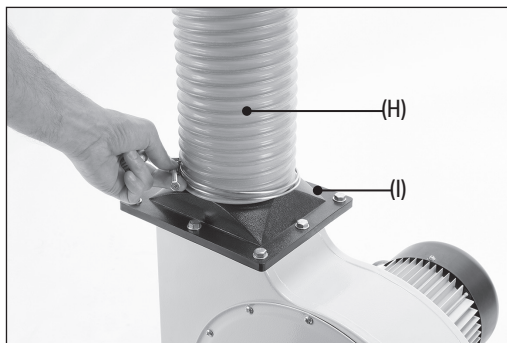
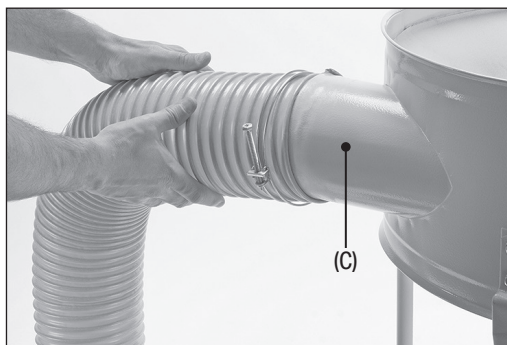

Fig. 9
Fig. 10
- Attach one end of the hose to the hose outlet (Fig. 9) and the other to the collection bag duct (Fig. 10).
- Open the collection bag (D) and slide it up over the lower rim of the collection bag duct (C), using the rubber band to hold it in place.
- Pass a strap (N) around the collection bag duct so that it runs between the duct and the support rods and over the bag and rubber band.